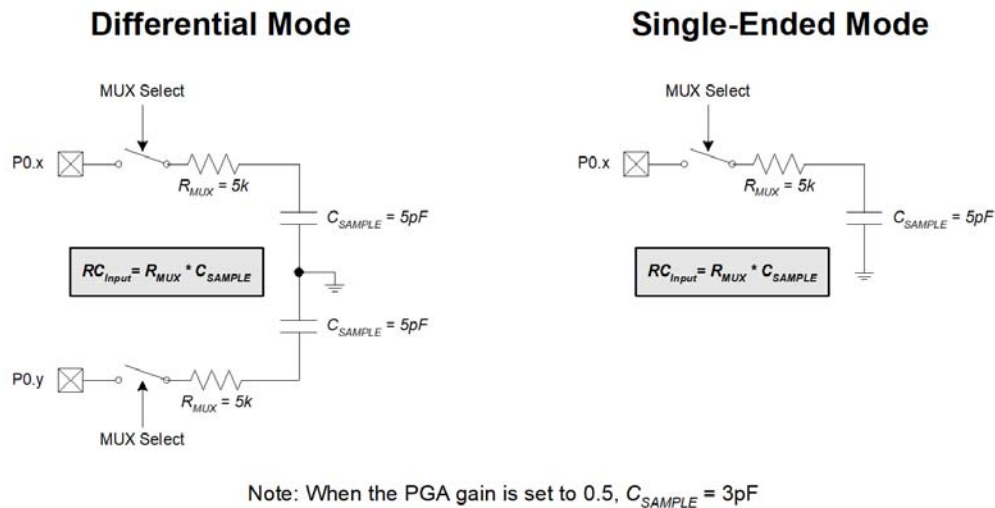

Figure 5.5. ADC0 Equivalent Input Circuits
Figure 5.5 shows the equivalent ADC0 input circuits for both Differential and Single-ended modes. Notice that the equivalent time constant for both input circuits is the same. The required ADC0 settling time for a given settling accuracy (SA) may be approximated by Equation 5.1. When measuring the Temperature Sensor output or V_{DD} with respect to GND, R_{TOTAL} reduces to R_{MUX} . See Table 5.1 for ADC0 minimum settling time (track/hold time) requirements.